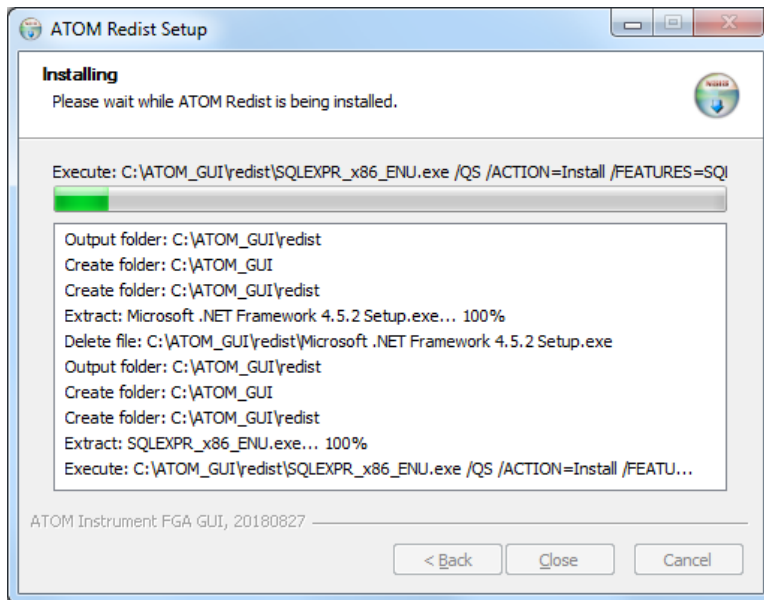

Figure 3.7
- The installation process will begin (no user intervention is necessary) (*Figure 3.7*).